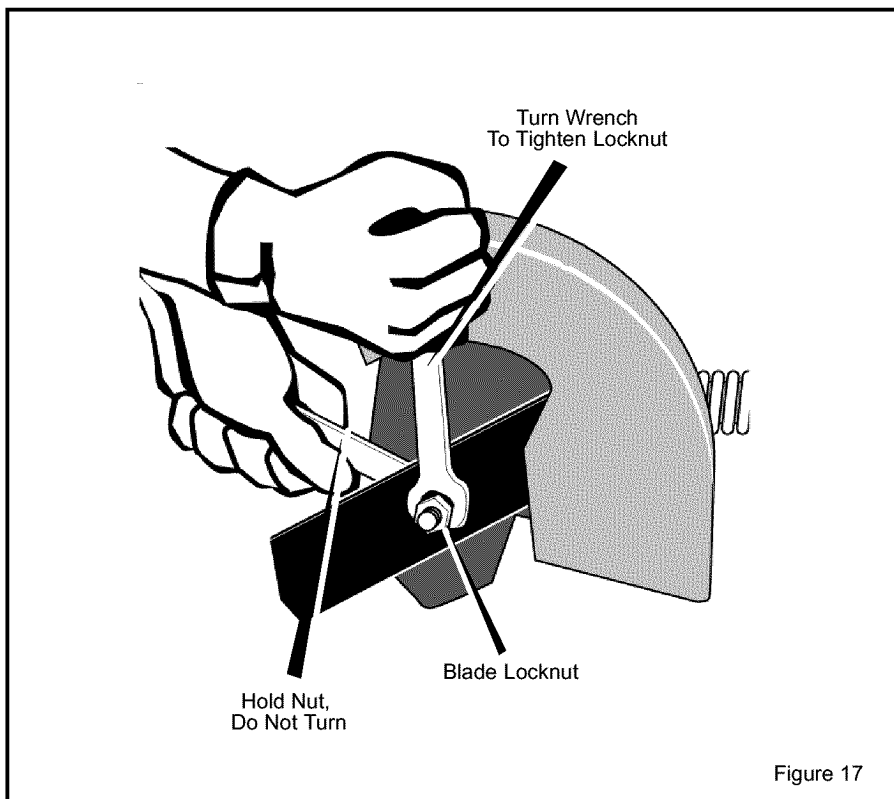

Figure 17
**WARNING: To remove or tighten the blade locknut, always use the method shown in Figure 17. Always position the holding wrench on the nut behind the blade.**